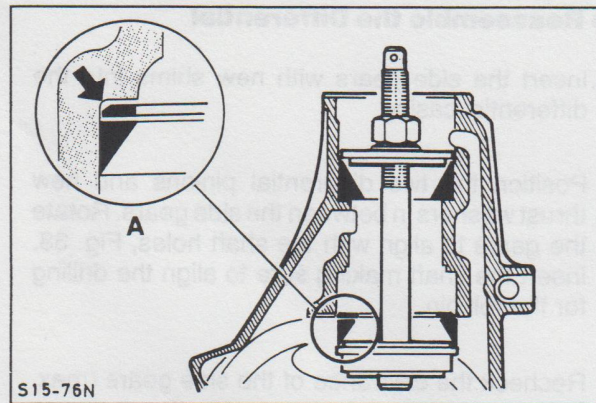

Fig. 41. Fit inner bearing cup using special tools.
15. When fitting the new inner bearing cup, also fit a new standard shim (2 mm thick) with the chamfered outer edge facing towards the casing, Fig. 41.